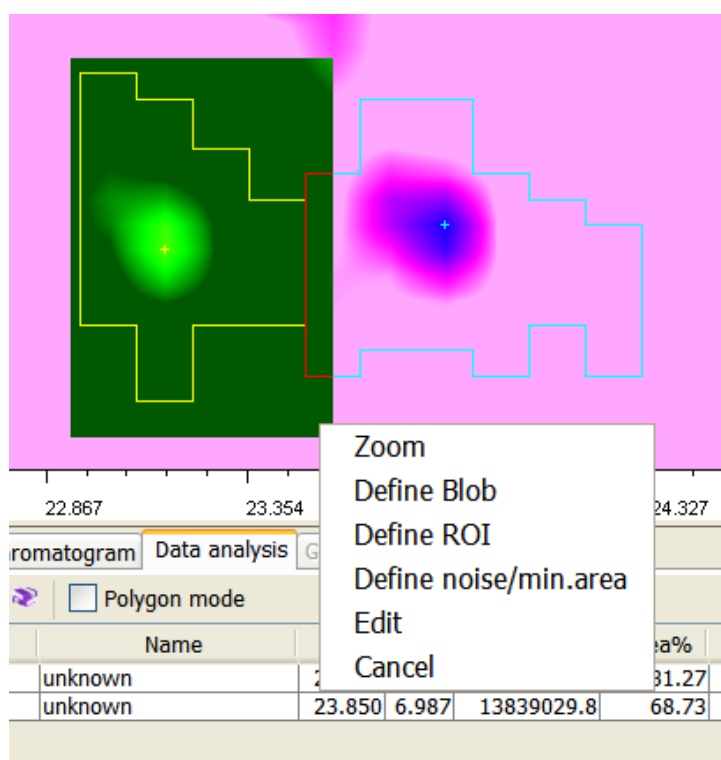

Figure 12.3: Define Blob
3. From the context menu, select "Define Blob" (see Figure 12.3)